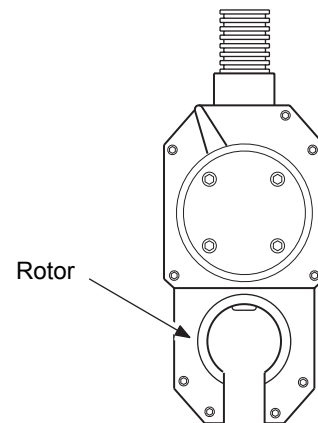

Figure 10 Positioning the Weld Head to View the Rotor Rotation
4. Position the weld head so that the rotor can be easily seen. See Figure 10. Do not attach the fixture block to the weld head.